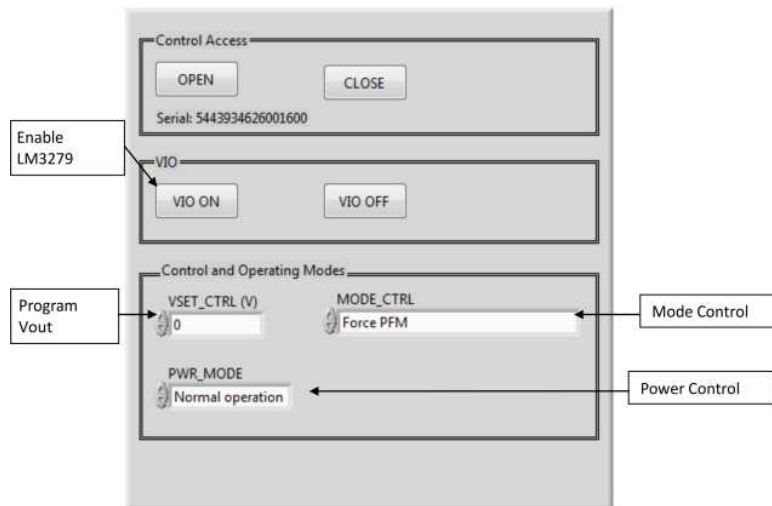

Figure 11. Programming GUI Window
5. Another window will appear Figure 11 with the programmable registers of the LM3279.
7. Configure the Output voltage, Mode, and mode of operation for LM3279 to desired configuration (refer to Figure 11).